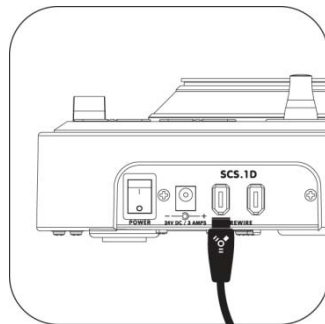

Figure 2.2
Step 2: Attach the included FireWire cable to the SCS.1d. The FireWire ports are clearly labeled on the back panel of the SCS.1d. (Figure 2.2)